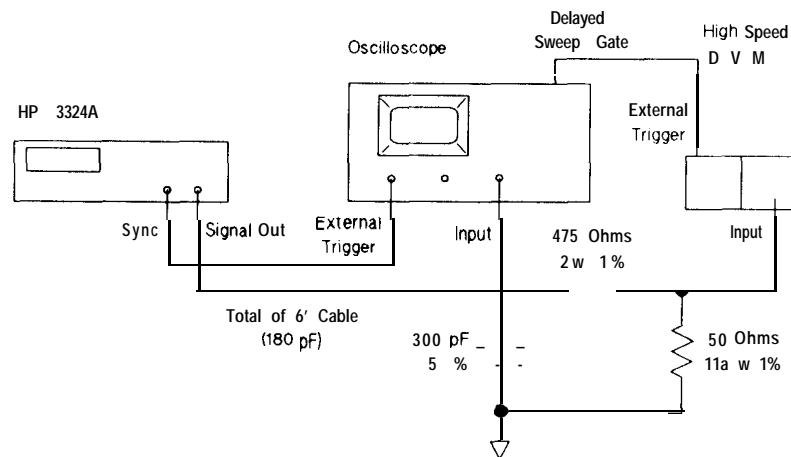

Figure 12-6. Function Amplitude Accuracy Test Set-Up (High-Voltage Output)
4. **High-Voltage Function Test.** Connect the equipment as shown in Figure 12-6.
5. The voltage divider shown in Figure 12-6 is built into a small metal box with 2 BNC connectors. Parts used are:
Connect the tap to the input of the high-speed voltmeter, as shown in Figure 12-6.
1. Connect the HP 3324A output to an oscilloscope with a **500 Ω , 300pF** load (load attached at either end). The cable capacitance (30 pF/foot) must be included in the 300 pF. The HV divider (Figure 12-6) may be used with 6 feet of cable.